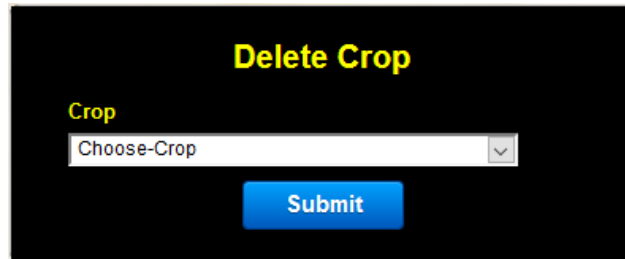

Fig. 25
1. This form allows you to delete a Crop from your account.(See fig. 25)